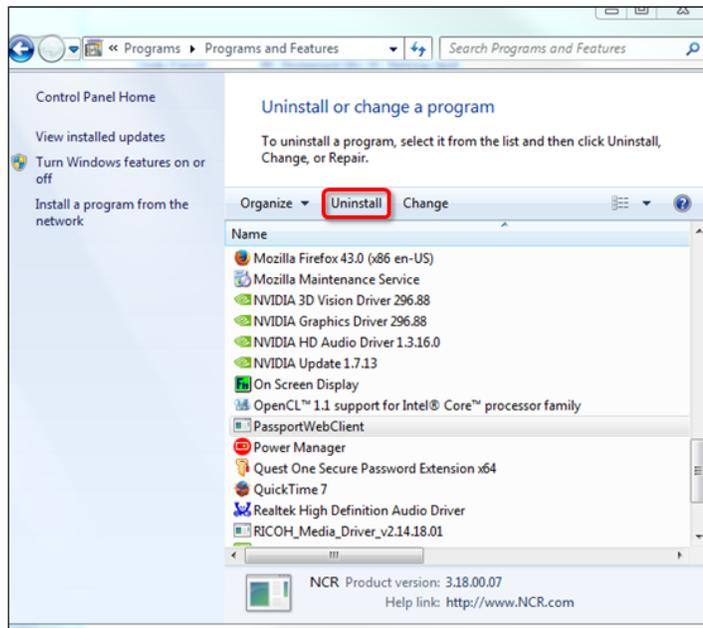

Figure 13: Uninstalling the Scanner Driver
3. Click **Uninstall**. See Figure 13.